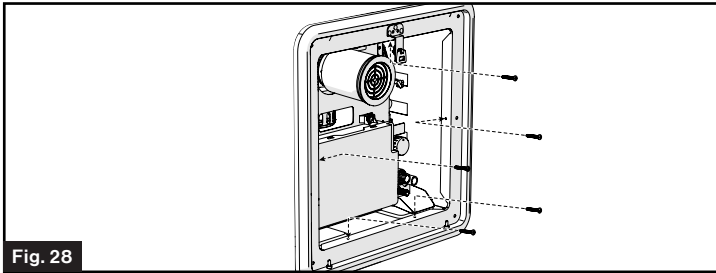

Fig. 28
6. Align the holes of the water heater body with door flange holes, mount the door frame into position using 5 #8 (min 1") pan head screws (not provided). (Fig. 28)